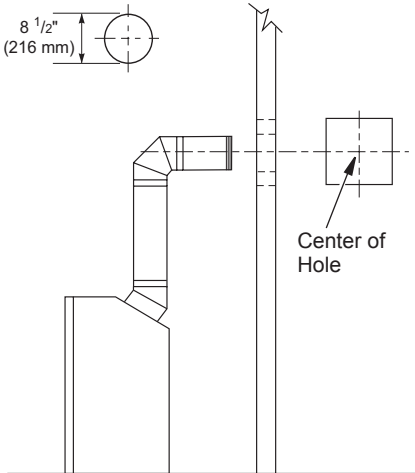
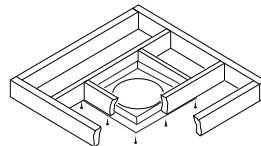

Figure 9 - Vent Opening Requirements
Figure 20 - Installing Firestop
5. Carefully determine the location where the vent pipe assembly will penetrate the outside wall. The center of the hole should line up with the center-line of the horizontal vent pipe. Mark the wall for a 10 3/4" x 10 3/4" square hole. Cut and frame the square hole in the exterior wall where the vent will be terminated. If the wall being penetrated is constructed of noncombustible material, such as masonry block or concrete, a 8 1/2" hole with zero clearance is acceptable (see Figure 9).
1. Cut a 10 3/4" square hole in the ceiling using the locating hole as a center point. The opening should be framed to 10 3/4" x 10 3/4" (273 mm x 273 mm) inside dimensions, as shown in Figure 9 on page 10 using framing lumber the same size as the ceiling joists. If the area above the ceiling is an insulated ceiling or a room, nail firestop from the top side. This prevents loose insulation from falling into the required clearance space. Otherwise, install firestop below the framed hole. The firestop should be installed with no less than three nails per side (see Figure 20).
3. Cut a hole in the roof using the locating hole as a center point. (Cover any exposed open vent pipes before cutting hole in roof.) The 10 3/4" x 10 3/4" hole must be measured on the horizontal; actual length may be larger depending on the pitch of the roof. There must be a 1" clearance from the vent pipe to combustible materials. Frame the opening as shown in Figure 9, page 10.